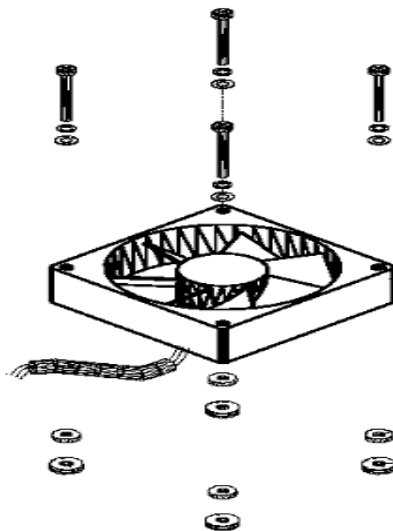

Figure 8-49 Fan Part Details
- 3) Mount each fan with four Isodamp Grommets and Insulation Sleeves underneath the top of the crate, as shown in Figure 8-49 on page 8-52.